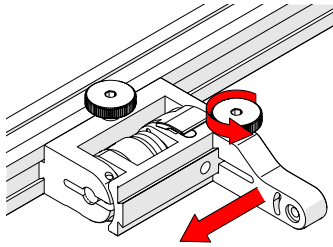

Fig. 122 - Position swing arm
5. Loosen the swing arm knob and slide the swing arm to the opposite end of the probe holder bracket (*Fig. 122*) or preferred position. Tighten swing arm knob.